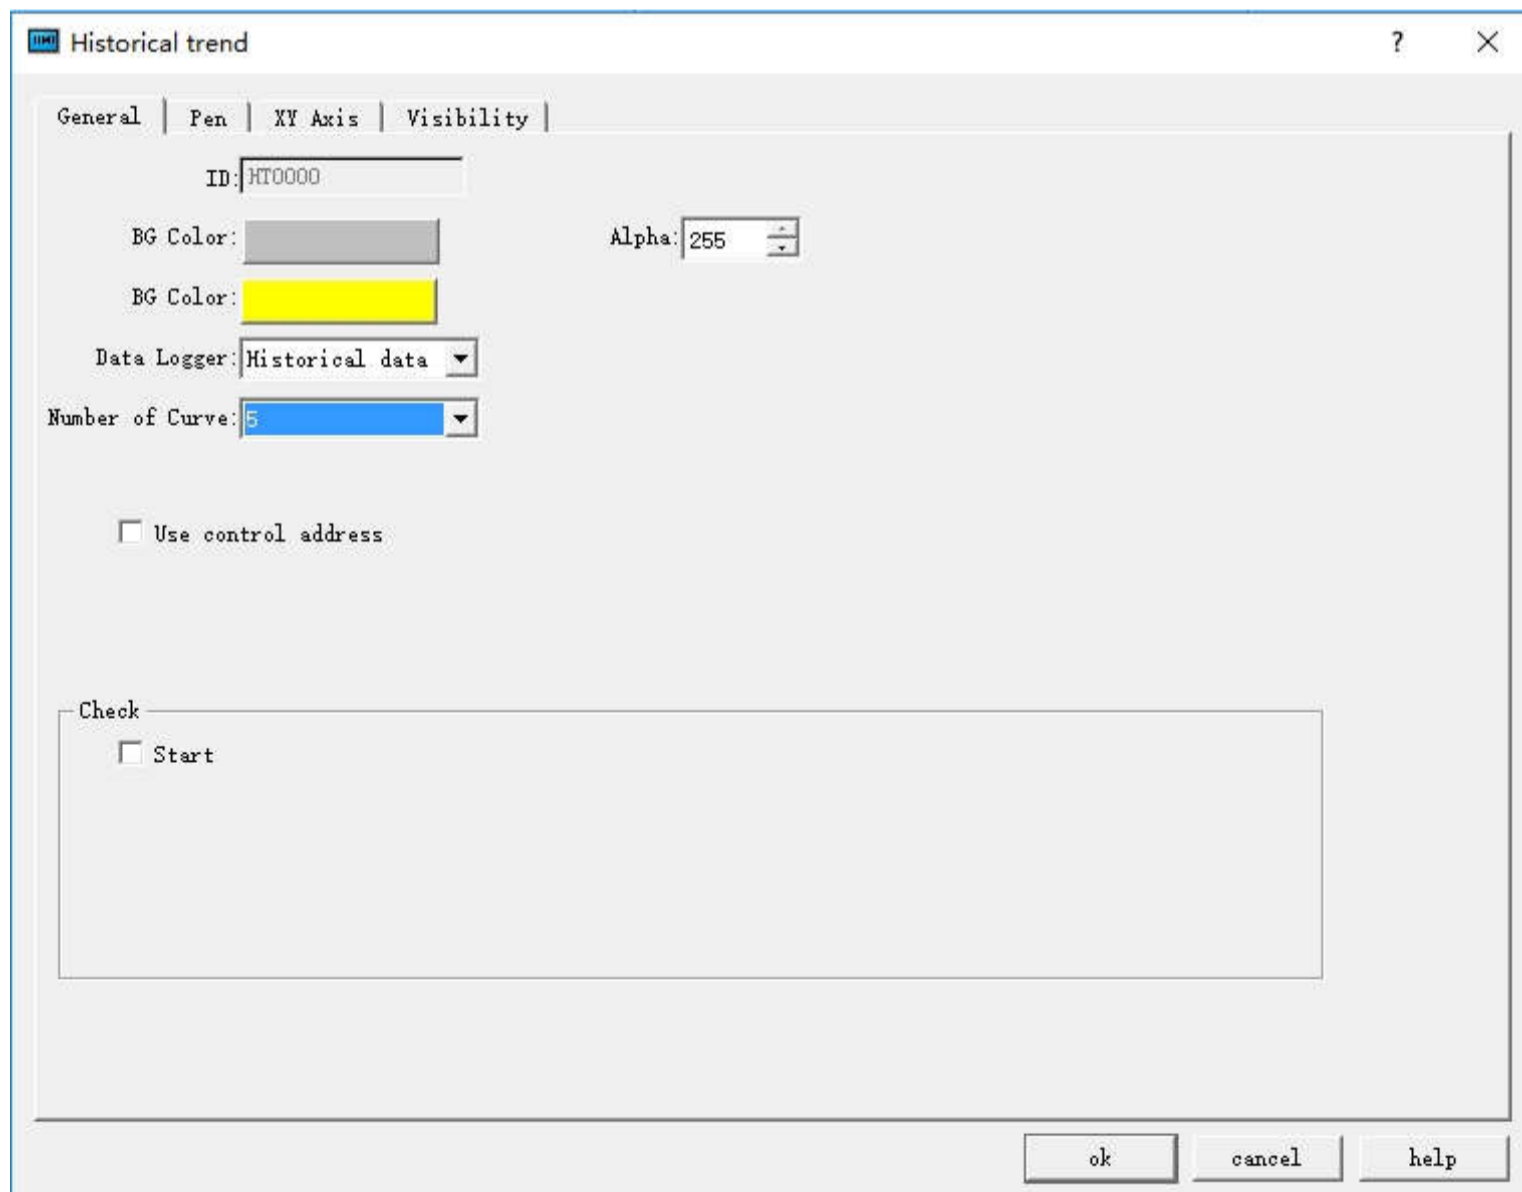

Figure 4-48 Historical Trend General page dialog box
1. Select the trend icon  in the toolbar, the Historical Trend Property dialog box appears, as shown in Figure 4-48: